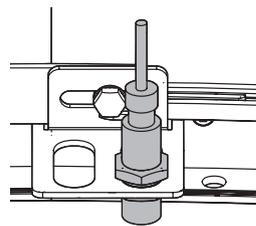

Fig. 47 Installation of the proximity sensor on the inside
2. Mount the proximity sensor as shown in Fig. 47 with